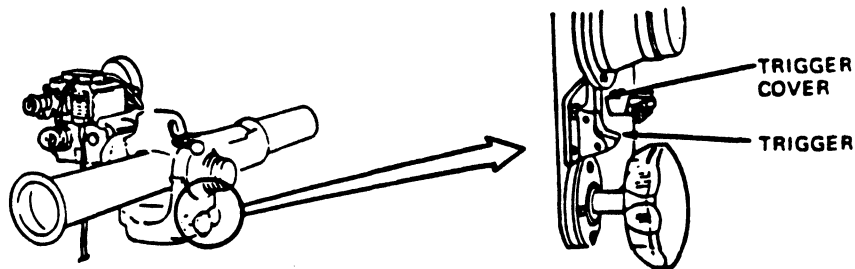

Fig 4-38. Exposed trigger.
Step 3. Raise the trigger cover to expose the trigger (fig 4-38).